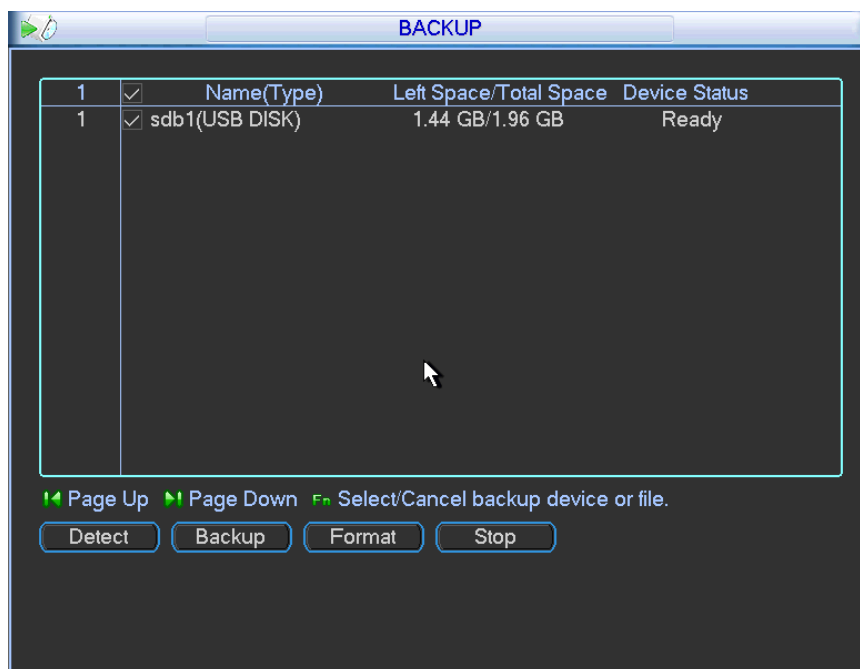

Figure 5-47
- From Main menu->Backup, you can go to the Backup interface. See Figure 5-47